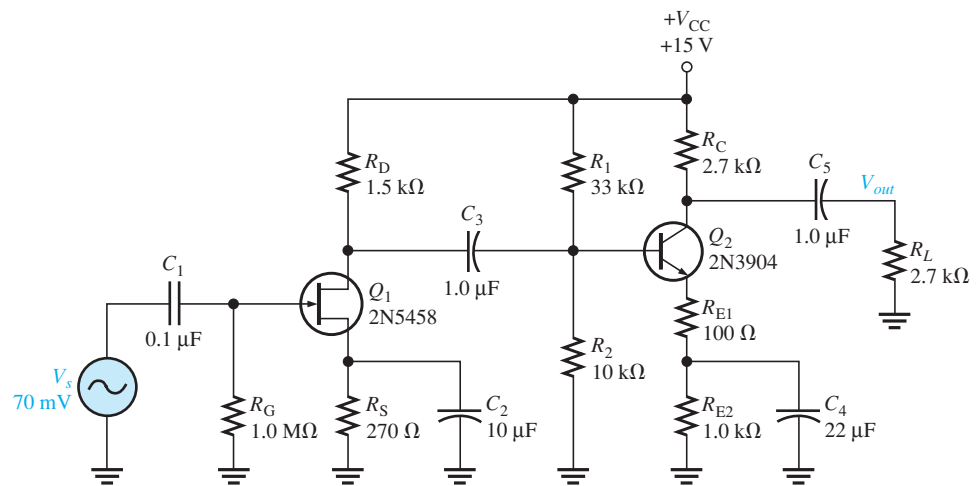

FIGURE 5-60
- Using the results of Problem 1, draw the ac amplifier model for the two-stage amplifier in Figure 5-60. (See Figure 5-5 for an example.)